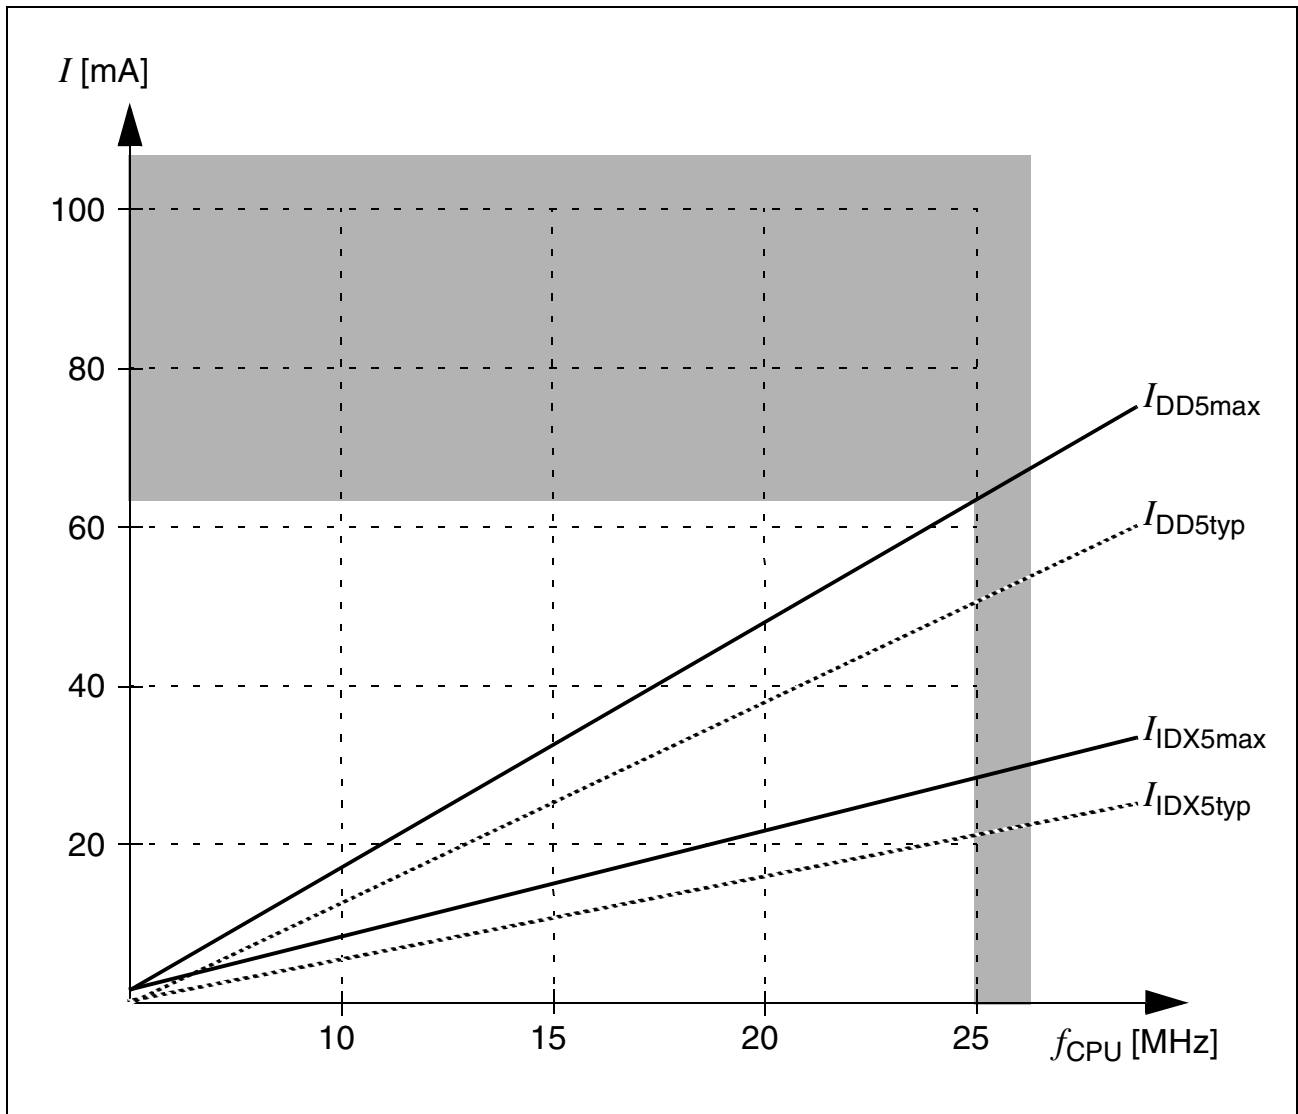

Figure 9 Supply/Idle Current as a Function of Operating Frequency for ROM Derivatives
- ¹⁾ The supply current is a function of the operating frequency. This dependency is illustrated in Figure 9. These parameters are tested at V_{DDmax} and maximum CPU clock with all outputs disconnected and all inputs at V_{IL} or V_{IH} .